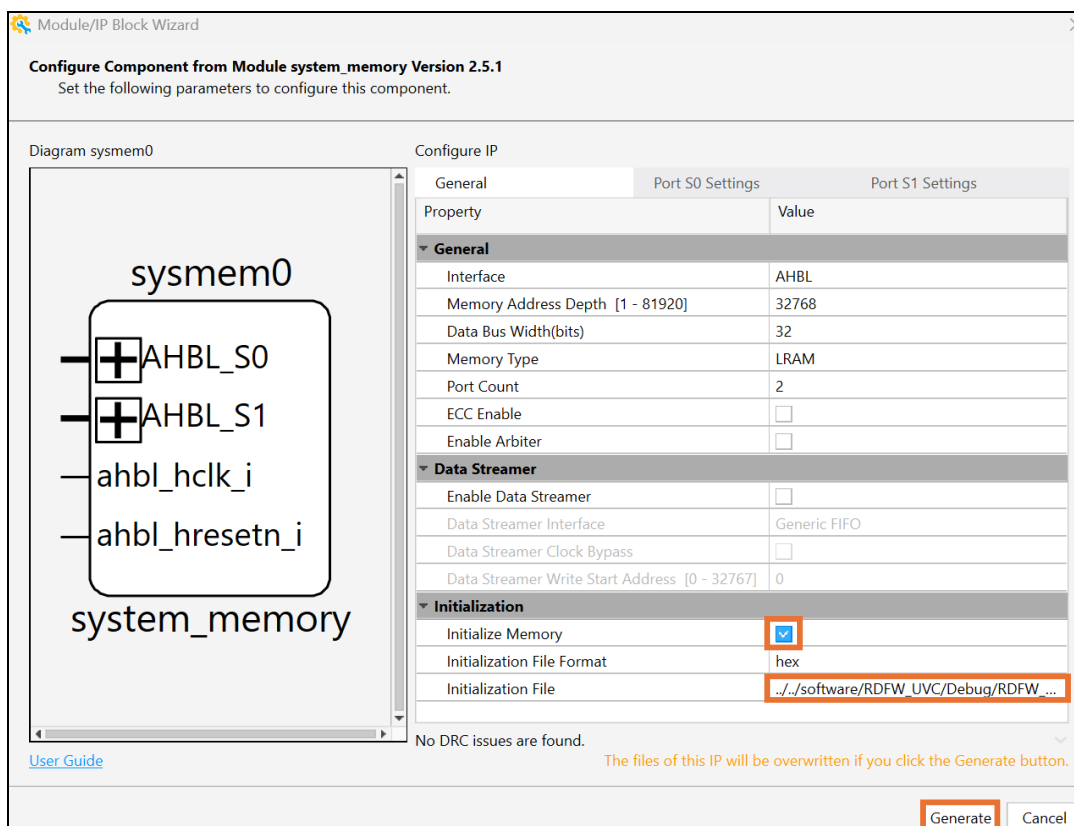

Figure 5.13. Mapping the System Memory Initialization Files
- In the Propel Builder design schematic, double-click the *sysmem0_inst* to open the system_memory Module/IP Block Wizard and ensure the Initialization File is mapped to `../propelsdk/riscv_mc/Debug/riscv_mc.mem` or the latest revision of the .mem file. Then, click on the **Generate** button, as shown in Figure 5.13.